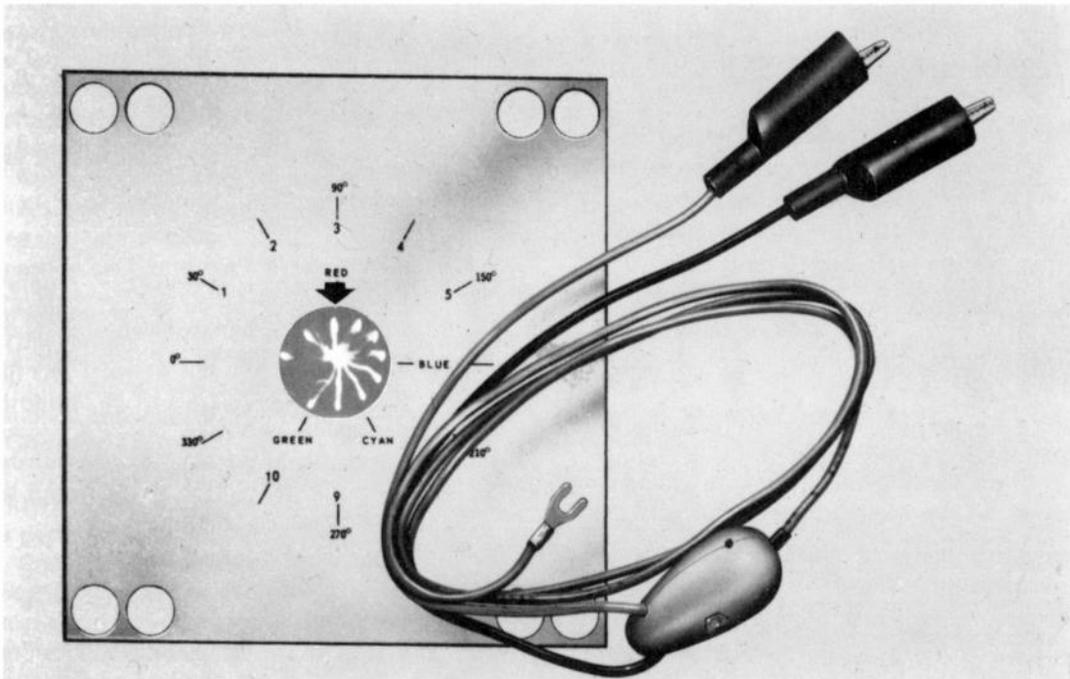

FIGURE 28-9 THE VECTORSCOPE TECHNIQUE WITH ACCESSORY PROBE AND TYPICAL ROSETTE PATTERN ON SCREEN, FOR OSCILLOSCOPE IN FIG. 28-5. (RCA)
**Vectorscope.** This test instrument combines a color-bar generator with an oscilloscope to show the phase angles of the hues. However, a separate generator can be used with a conventional oscilloscope to produce the vectorscope pattern. The output signals of the  $R - Y$  and  $B - Y$  demodulators are fed to the vertical and horizontal amplifiers of the oscilloscope. The trace is a circle with spokes or petals, as in Fig. 28-9. Each petal is a vector in the rosette pattern, corresponding to the phase angle of one of the color bars.